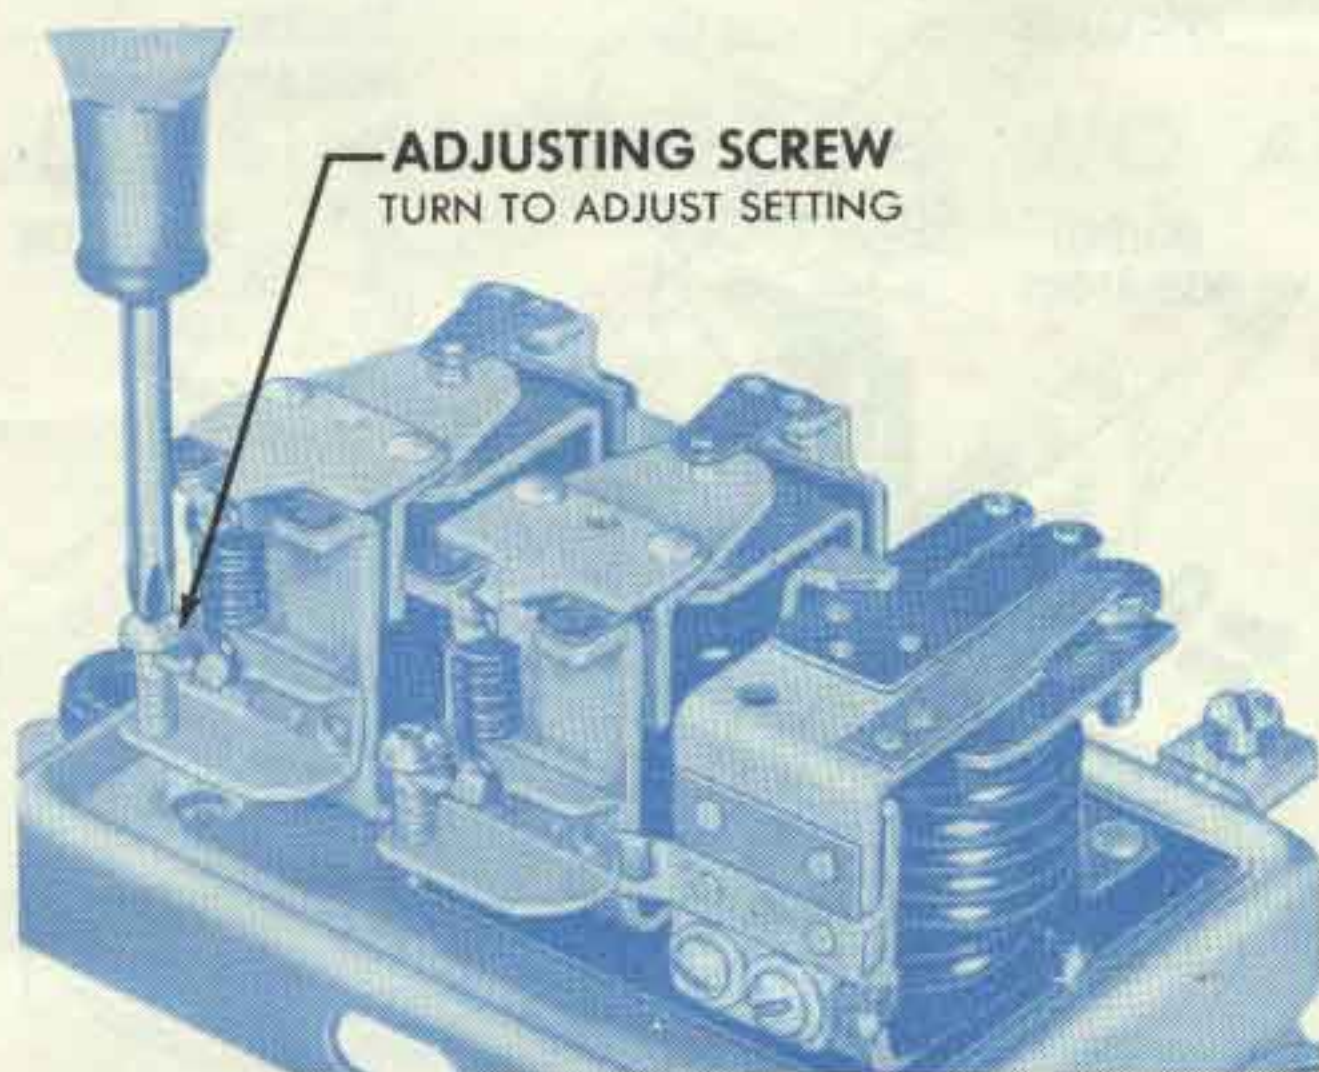
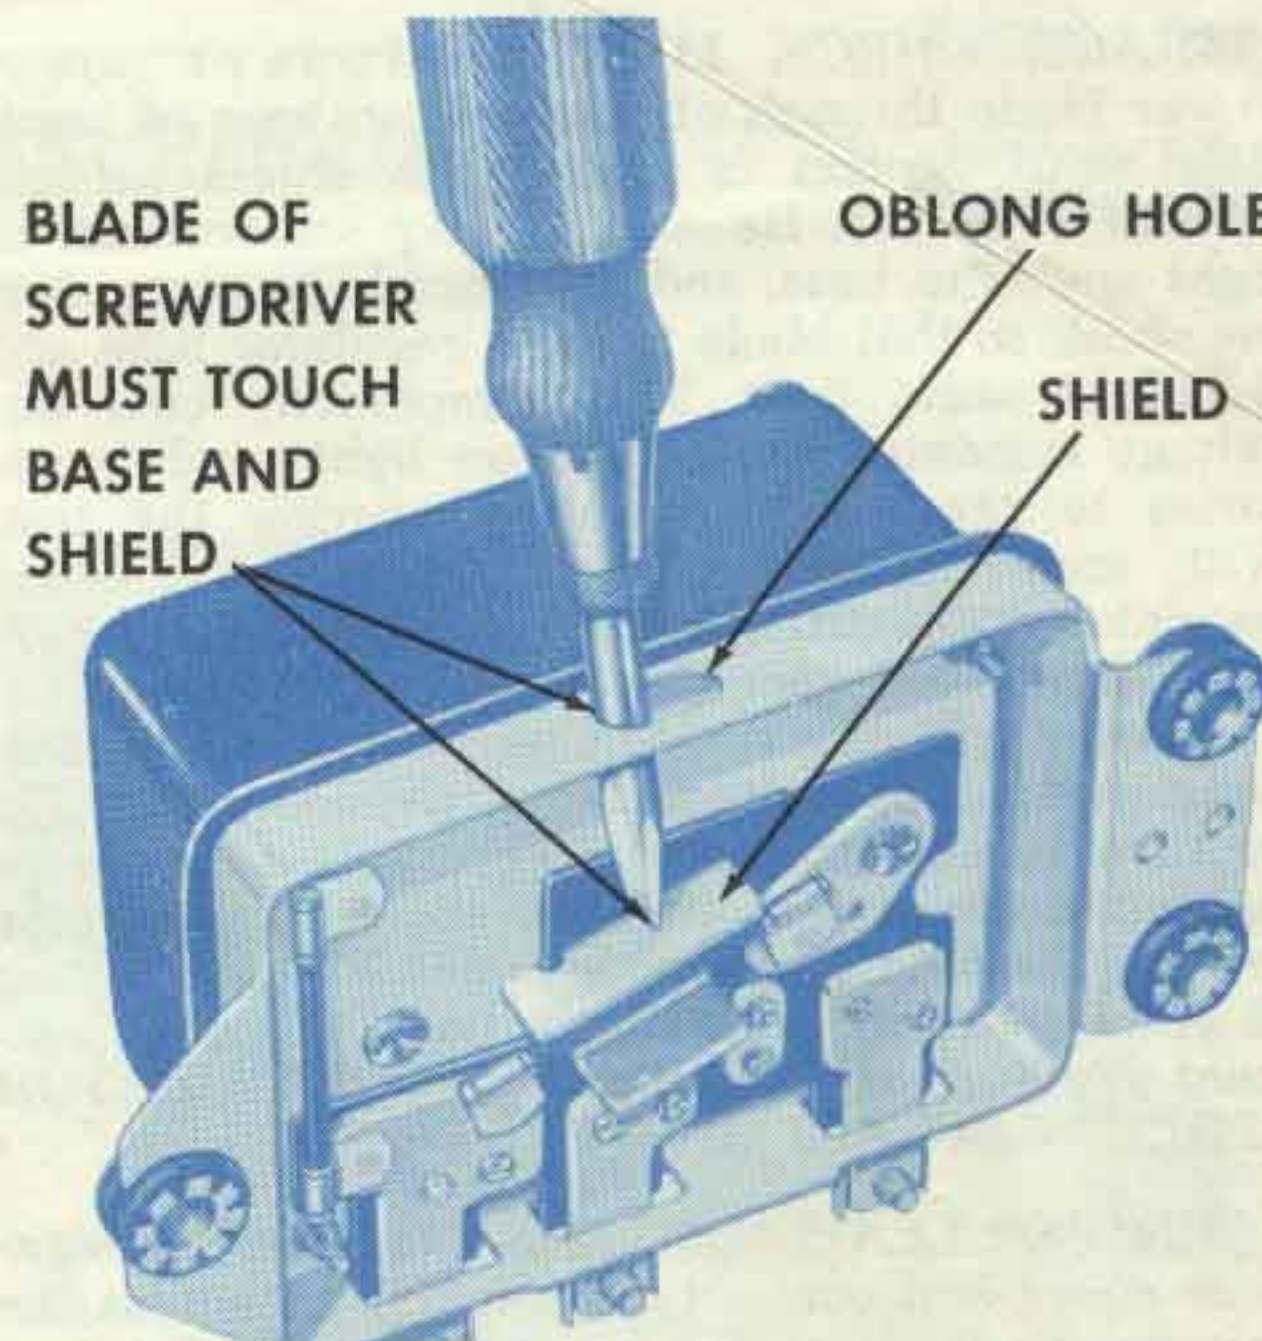
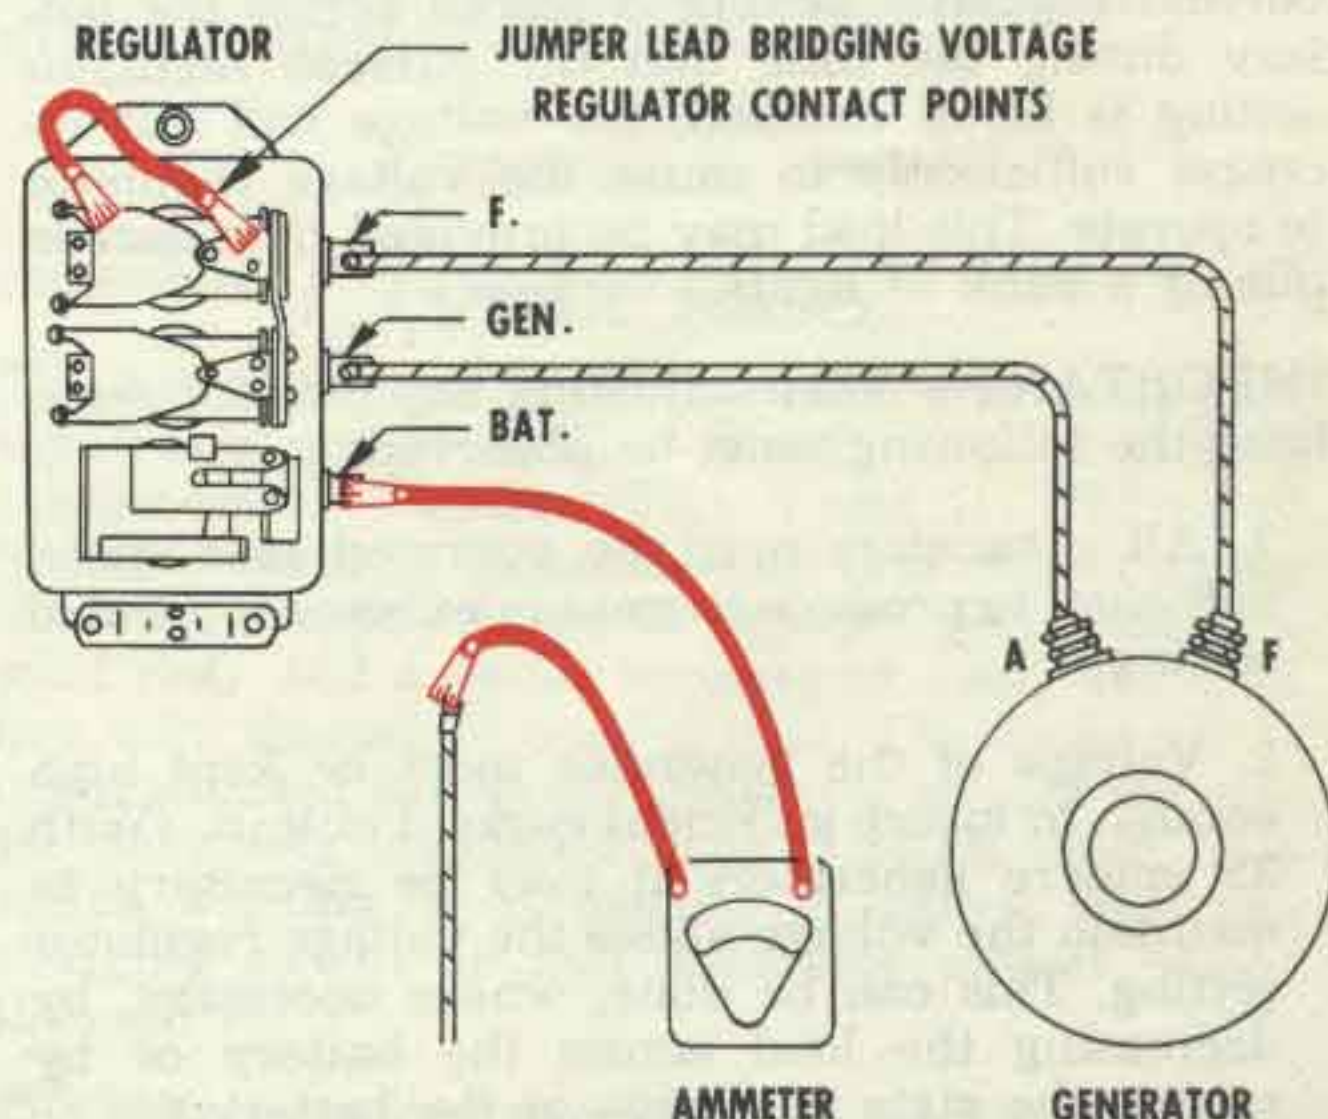

Figure 13—Adjusting voltage regulator setting.
Figure 14—Quick method for cutting out voltage regulator in order to check current regulator setting.
Figure 15—Ammeter and jumper lead connections for checking current regulator setting by the jumper lead method. Ammeter leads and jumper lead shown in red.
To adjust voltage setting, turn adjusting screw (Fig. 13). Turn screw clockwise to increase voltage setting and counterclockwise to decrease voltage setting.
1. **QUICK CHECK METHOD**—Insert screwdriver blade through oblong hole in base of regulator until contact is made with shield around resistor (Fig. 14). Be sure to keep screwdriver at right angles to base, and hold firmly in place during check so that blade touches regulator base and shield at same time. This temporarily cuts out voltage regulator unit. Turn on lights and accessories to prevent high voltage during the test. With ammeter connected as in Figure 15 and regulator at operating temperature, operate generator at specified speed, and note current setting. If necessary to adjust, remove cover and adjust in same manner as voltage regulator unit (Fig. 13) by turning adjusting screw clockwise to increase current setting or counterclockwise to decrease setting. See CAUTION note under Voltage Setting of Voltage Regulator. If unit is badly out of adjustment readjust as explained under **REGULATOR SPRING REPLACEMENT**.
2. **JUMPER LEAD METHOD**—Remove the regulator cover and connect a jumper lead across the voltage regulator contact points (Fig. 15). Turn on lights and accessories to prevent high voltage during the test. With generator operating at specified speed and with regulator at operating temperature, note the current setting.